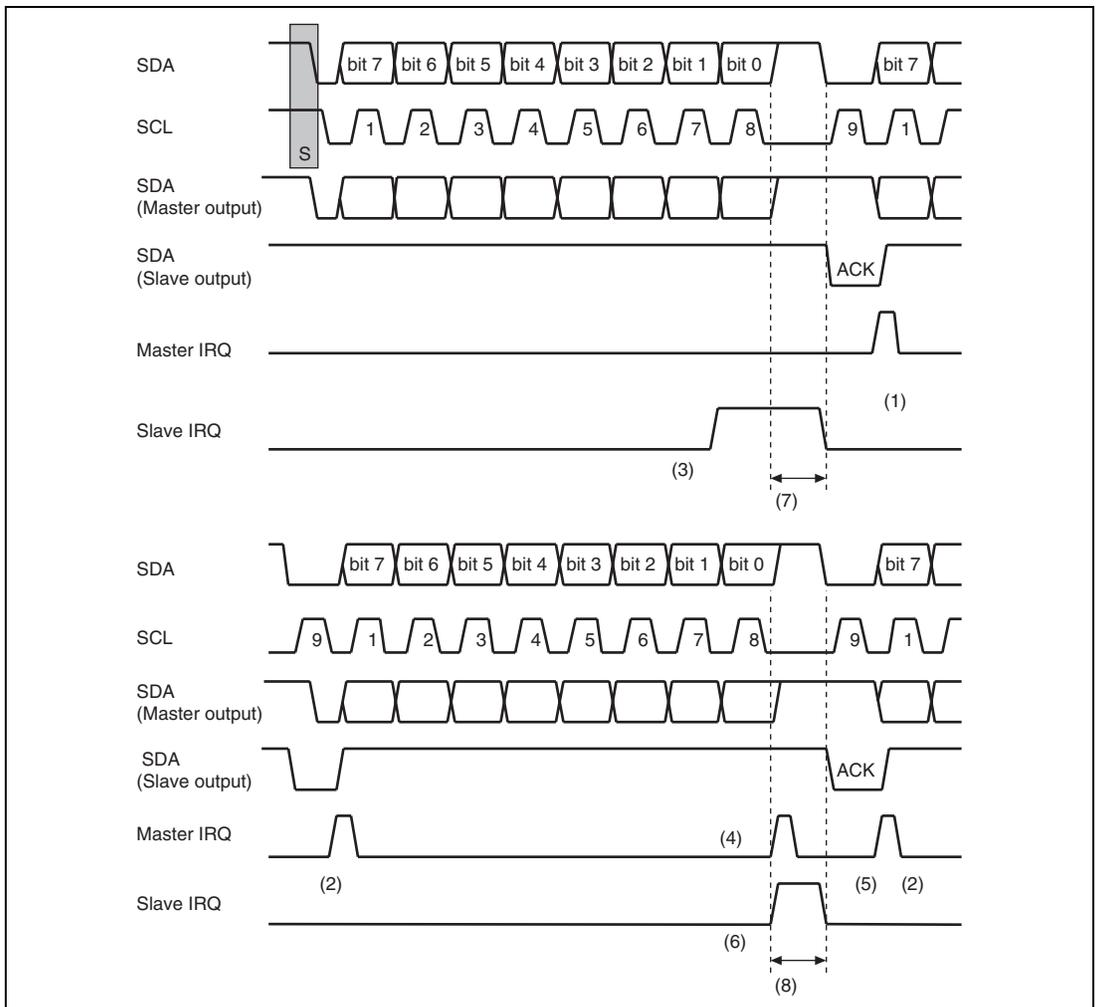

Figure 29.9 Data Transmit Mode Operation Timing
The transmit procedure and operation in master transmit mode are described below. Figure 29.9 shows the timing chart in master transmit mode. Setting the MDS bit in the master control register allows the I²C to operate in single-buffer mode.
3. After the transmit START condition, slave address, and data transfer direction bits are transmitted, an interrupt due to the MAT and MDE bits in the master status register is generated at the timing of (1) in figure 29.9. At this time, clear the ESG bit to 0. To suspend the data transmission, the master device will hold SCL low until the MDE bit is cleared.
4. An interrupt due to the SAR bit is generated at the timing of (3) shown in figure 29.9. If the IRQ handling in the slave device is delayed, the slave device extends the SCL period to suspend data transmission (at the timing of (7) in figure 29.9). The slave device drives SDA low at the ninth clock and returns ACK.
5. Data is transmitted in units of nine bits: 8-bit data and 1-bit ACK. An interrupt of MDE (bit 3) is generated at the ninth clock before data transfer (at the timing of (2) in figure 29.9). An interrupt of MDT (bit 2) is generated at the eighth clock after 1-byte data transfer (at the timing of (4) in figure 29.9). Clear MDE to 0 after setting transmit data. An interrupt of SDR (slave data receive) of the slave device is generated at the eighth clock (at the timing of (6) in figure 29.9). Clear SDR after the slave device reads the receive data. If this processing is delayed, the slave device extends the SCL period to suspend data transmit (at the timing of (8) in figure 29.9).
6. To end data transfer, an interrupt of MNR (bit 6) in the master status register is generated at the ninth clock (at the timing of (5) in figure 29.9) when ACK from the slave device is 1 (Nack). The master device receives this Nack and outputs data transfer end condition. When data transmission ends on the master device side, set FSB (bit 1) in the master control register to 1 to output the suspend condition. After the I²C module fetches FSB on completion of transmission or reception of the last of byte data, it enters the stop state. Therefore in order to stop the communication after the predetermined number of byte data is transferred, the FSB bit needs to be set before the last byte data transfer is started.
Signal level changes of (1) to (6) in figure 29.9 are generated after the falling edge of the clock.